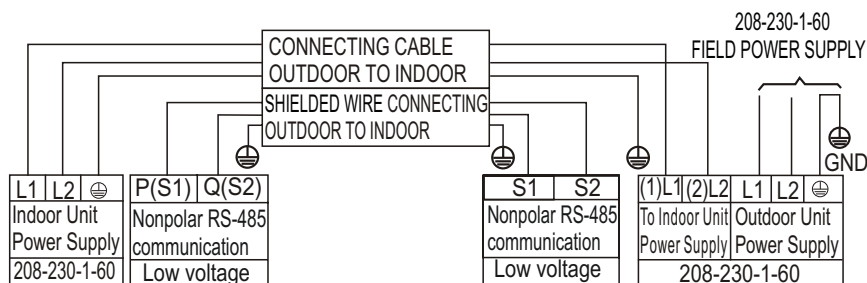

Fig. 22 — Connection Diagram sizes 36-48
2. All connections between indoor and outdoor units must be as shown in Figure 22. The connections are sensitive to polarity and will result in a fault code.